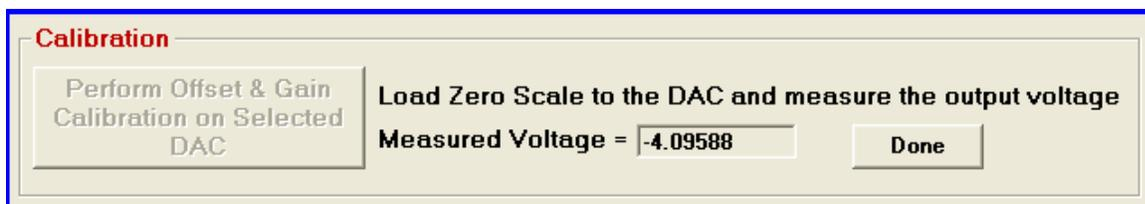

Figure 4. Calibrating for Gain Error
5. Click **Done**. The offset error should now have been reduced and the **Calibration** section display changes as shown in Figure 4.